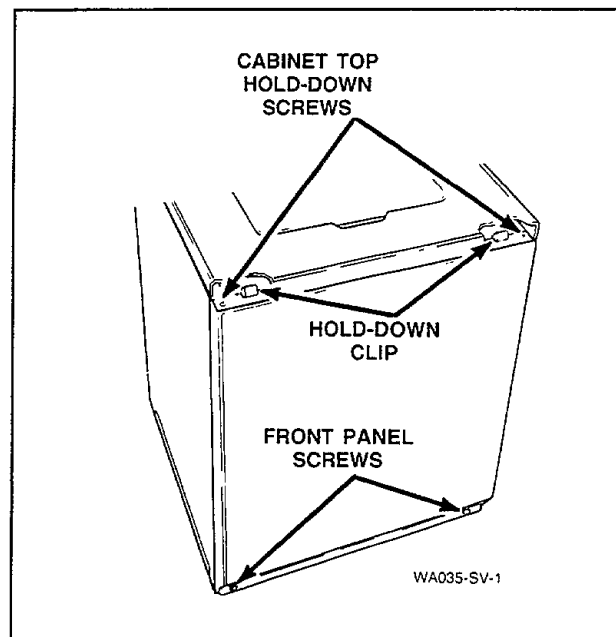

Figure 13
- Pull bottom of panel away from washer until hold-down clips (located on top flange of panel) disengage from slots in cabinet top, *Figure 13*.
- Remove two cabinet top hold-down screws, *Figure 13*.